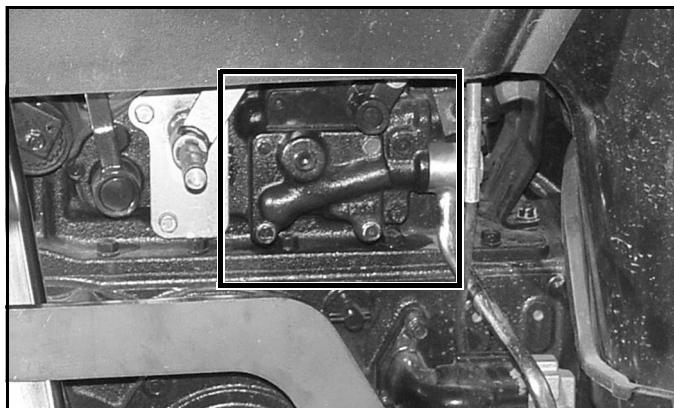
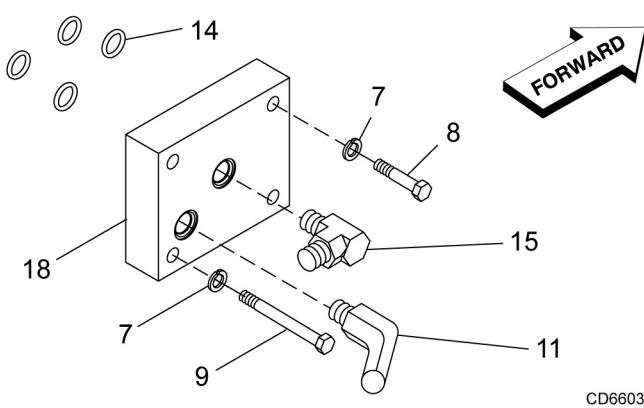

Figure 19. Hydraulic Manifold Location
Figure 20. Hydraulic Block and Fitting Installation
1. Locate the hydraulic manifold block on the right side of the tractor just under the fender (Figure 19) and remove the block-off cap.
2. Attach hydraulic block (18) to tractor using new o-rings (14), three cap screws (8) and one cap screw (9) plus washers (7). Make sure o-rings are properly seated during installation.
3. Install elbows (15) and (11) into ports shown in Figure 20. Point elbows rearward.